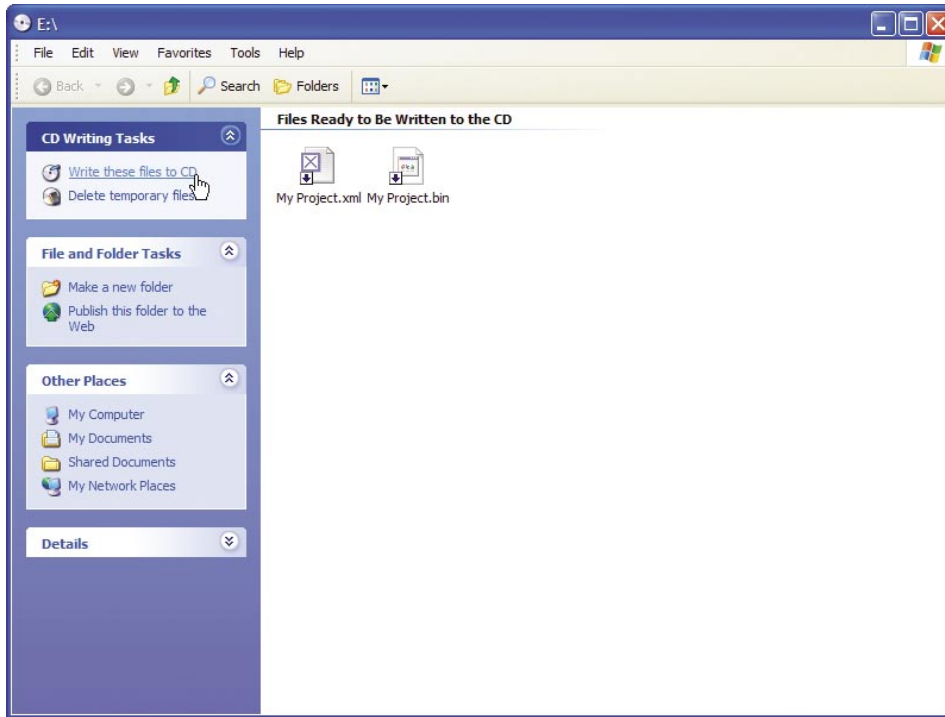

Figure 4.5. Project files are ready to be burned.
4. Open the **Writable CD** folder from the Windows XP task bar. Right-click and select **Paste** from the resulting pop-up menu. Depending on how many files you have, Windows will begin copying the files to a temporary spot somewhere on your hard drive, and then present you with shortcut icons when finished (Figure 4.5).